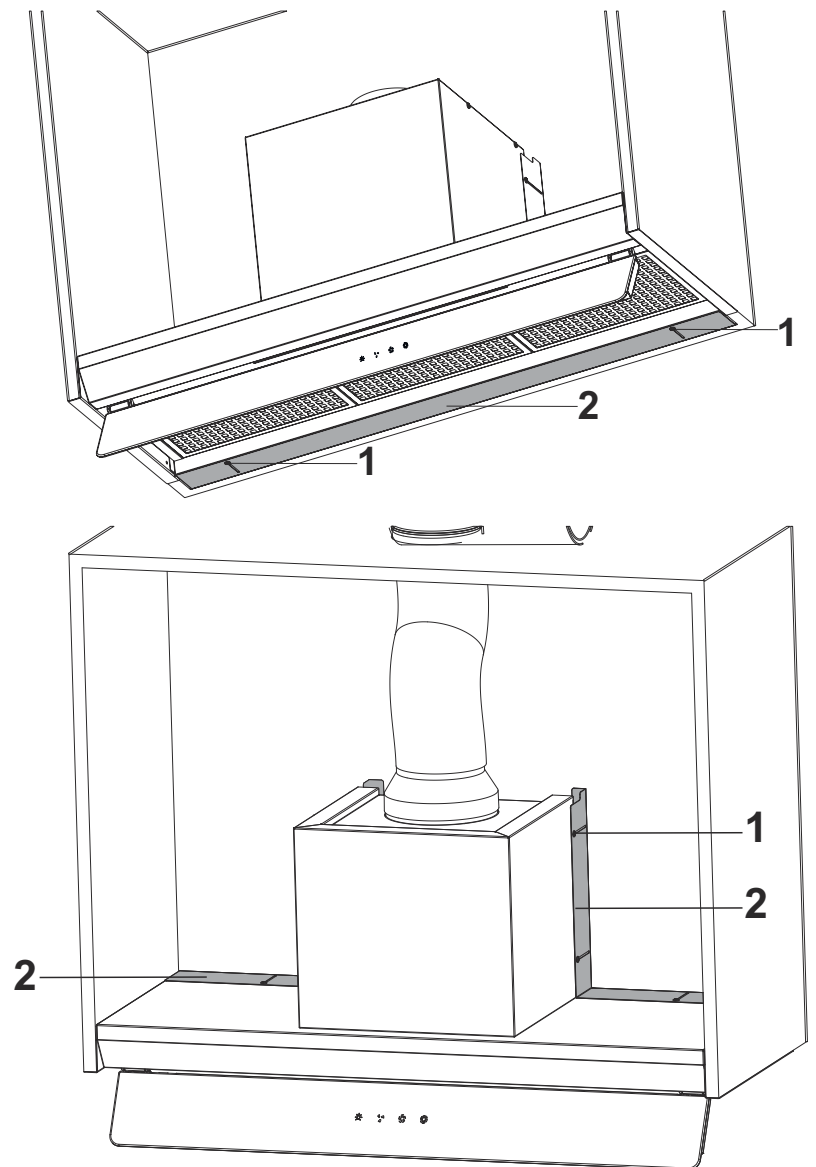

Fig. 18
4. → If there is any clearance between the Hood and the rear surface, fill this clearance with the spacer plate mounted on the appliance (Fig. 18).
Loosen the spacer plate connection screws and stick the spacer plate by pushing it up to the back wall. Repeat this for the other spacer plates on the body (Fig. 18).